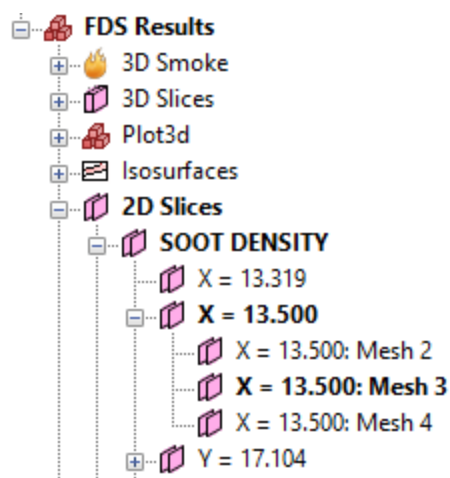

Figure 50. Activated 2D slice in the Navigation View
- In the Navigation View, the label for the object becomes **bold**. In addition, all the parent nodes of the object become bold as well. For example, if **SOOT DENSITY slice X = 13.5000 : Mesh 3** is activated, the Navigation View will appear as shown in Figure 50. This makes it easy to see which items in a hierarchy are currently active even if a node is collapsed.